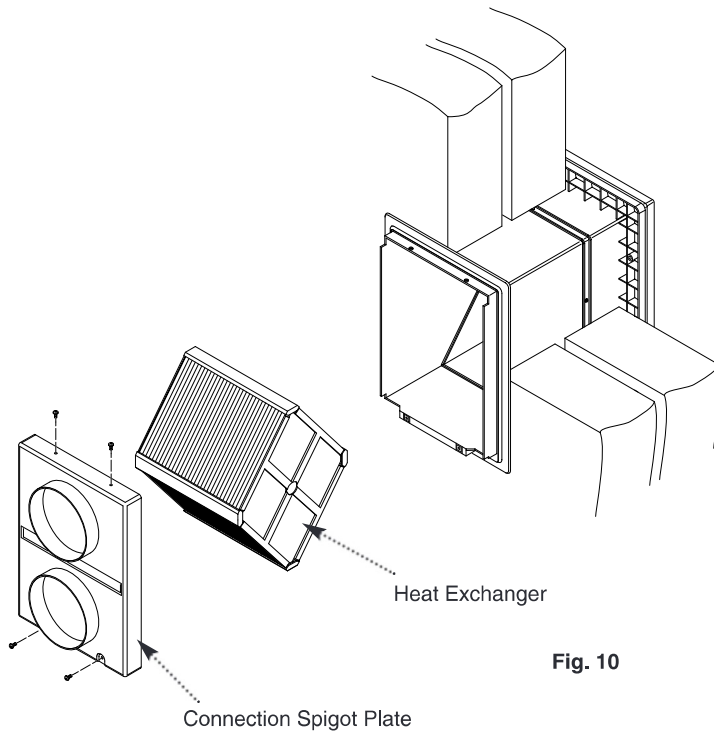

Fig. 10
3. Undo the four securing screws and remove the connection spigot plate (Fig. 10).
4. Slide out the heat exchanger (Fig 10). The heat exchanger should be washed in warm soapy water and dry thoroughly.